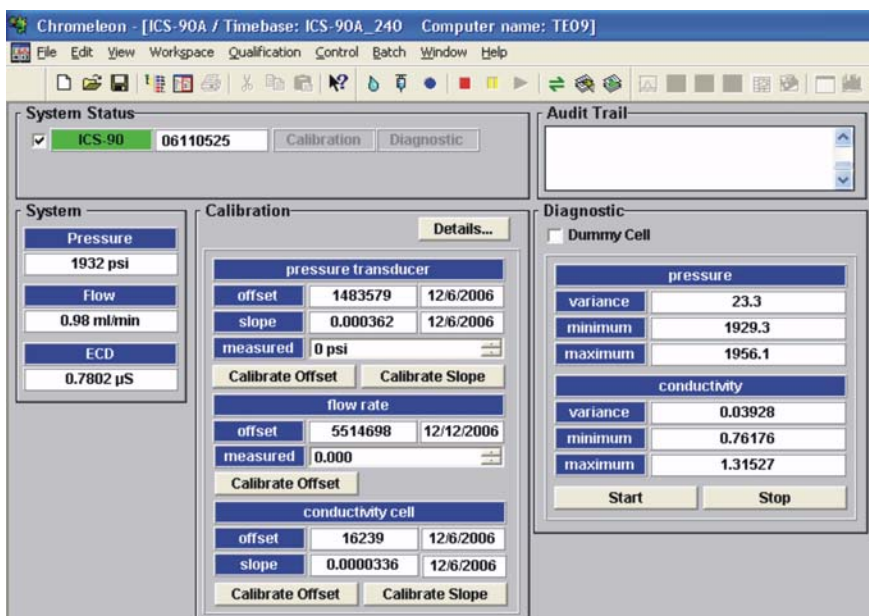

Figure 5-1. ICS-90 Wellness Panel (ICS-90A version shown)
Chromeleon and Chromeleon Xpress allow you to monitor ICS-90 functions and perform diagnostic and calibration procedures from the Wellness panel (see Figure 5-1). This section provides an overview of Wellness panel features. For instructions on performing calibrations, see the following sections:
The selected Wellness panel appears. The ICS-90A version of the panel (see Figure 5-1) includes controls for flow rate calibration that are not available on the ICS-90 Wellness panel; otherwise, the panels are identical.
4. Click the **Calibrate Offset** command button under **pressure transducer** (see Figure 5-1). The pump calibrates the transducer and uploads the new value to Chromeleon or Chromeleon Xpress. The new offset is stored as the current value.
5. Click the **Calibrate Offset** command button under **conductivity cell** (see Figure 5-1).
7. Disconnect the pump outlet line from port P (2) on the injection valve; connect the line directly to the cell inlet, using the yellow PEEK backpressure tubing (P/N 049715).
3. Click the **Calibrate Offset** command button under **flow rate** (see Figure 5-1). The pump calibrates the flow rate and uploads the new value to Chromeleon or Chromeleon Xpress. The new offset is stored as the current value.